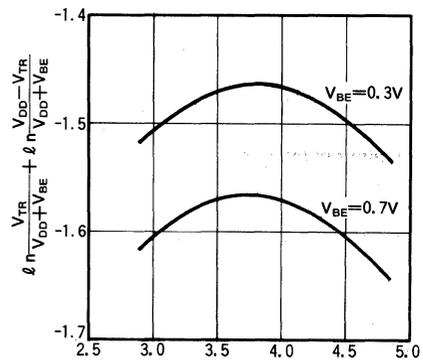

Fig. 1.  $V_{TR}$  VS  $\ln \frac{V_{TR}}{V_{DD} + V_{BE}} + \ln \frac{V_{DD} - V_{TR}}{V_{DD} + V_{BE}}$
The value in { } of (1) takes the maximum value at  $V_{TR} = V_{DD}/2$ . For example, under the condition of  $V_{DD} = 7.5V$ , the relation of the  $V_{TR}$  and the value in { } is shown in Figure 1.
Regarding the Figure 1, the value in { } of (1) at  $V_{DD} = 7.5V$  is, in a range of  $V_{BE} = 0.3V \sim 0.7V$  and  $V_{TR} = 2.9 \sim 4.8V$ ,  $-1.647, -1.464$ .